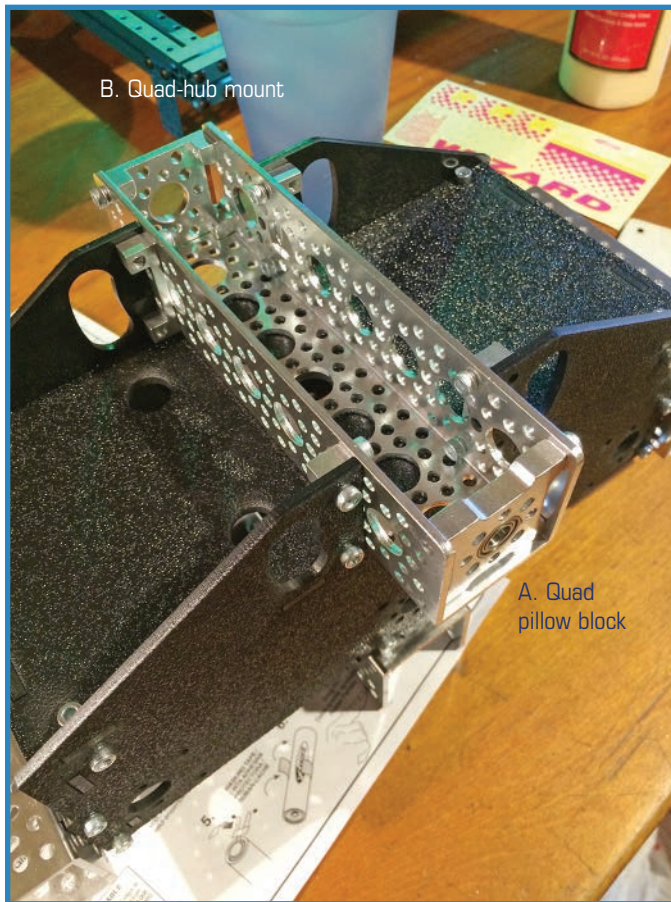

FIGURE 13.12 This 6" channel will eventually support the wheel assemblies.
3. Add the 6" channel length to the bottom of the ABS chassis with the help of more connector blocks, as shown in Figure 13.12. You'll also add two different mounts to either side. One mount is a quad pillow block (callout "A" in the figure) with a built-in bearing, allowing a quarter-inch axle to rotate freely. The other attachment is a quad-hub mount (callout "B"), similar to the other one but lacking a bearing.